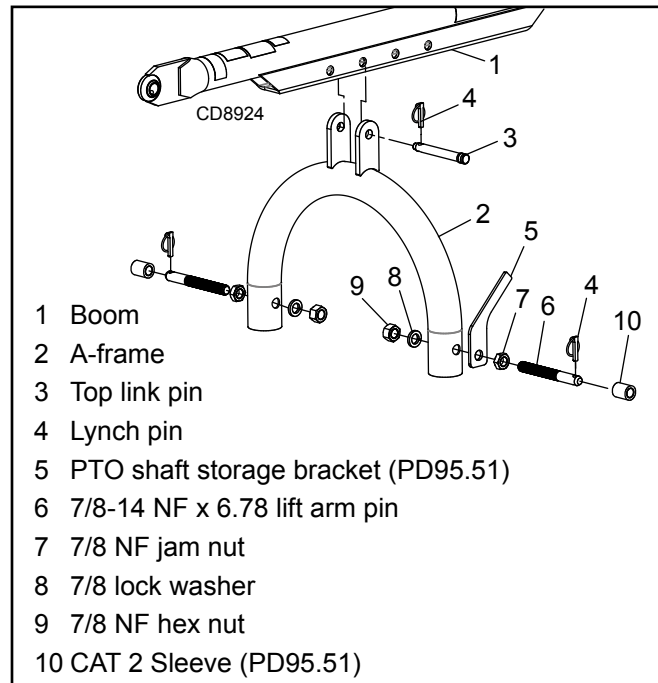

Figure 8. A-Frame to Boom Assembly
1. Connect lift arm pins (6), Figure 8, and hardware supplied with pins to the A-frame assembly (2). Mount PTO shaft storage bracket (5) as shown on outside of A-frame. (PD95.51 only).